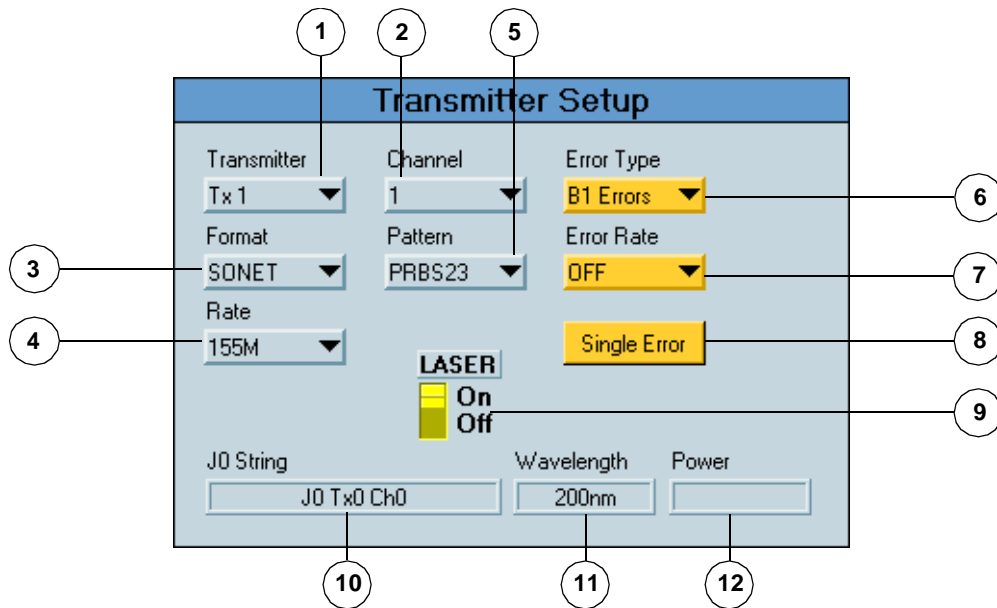

Figure 3-4. Transmitter Setup Area
- 1 Transmitter Setup, see Figure 3-4.